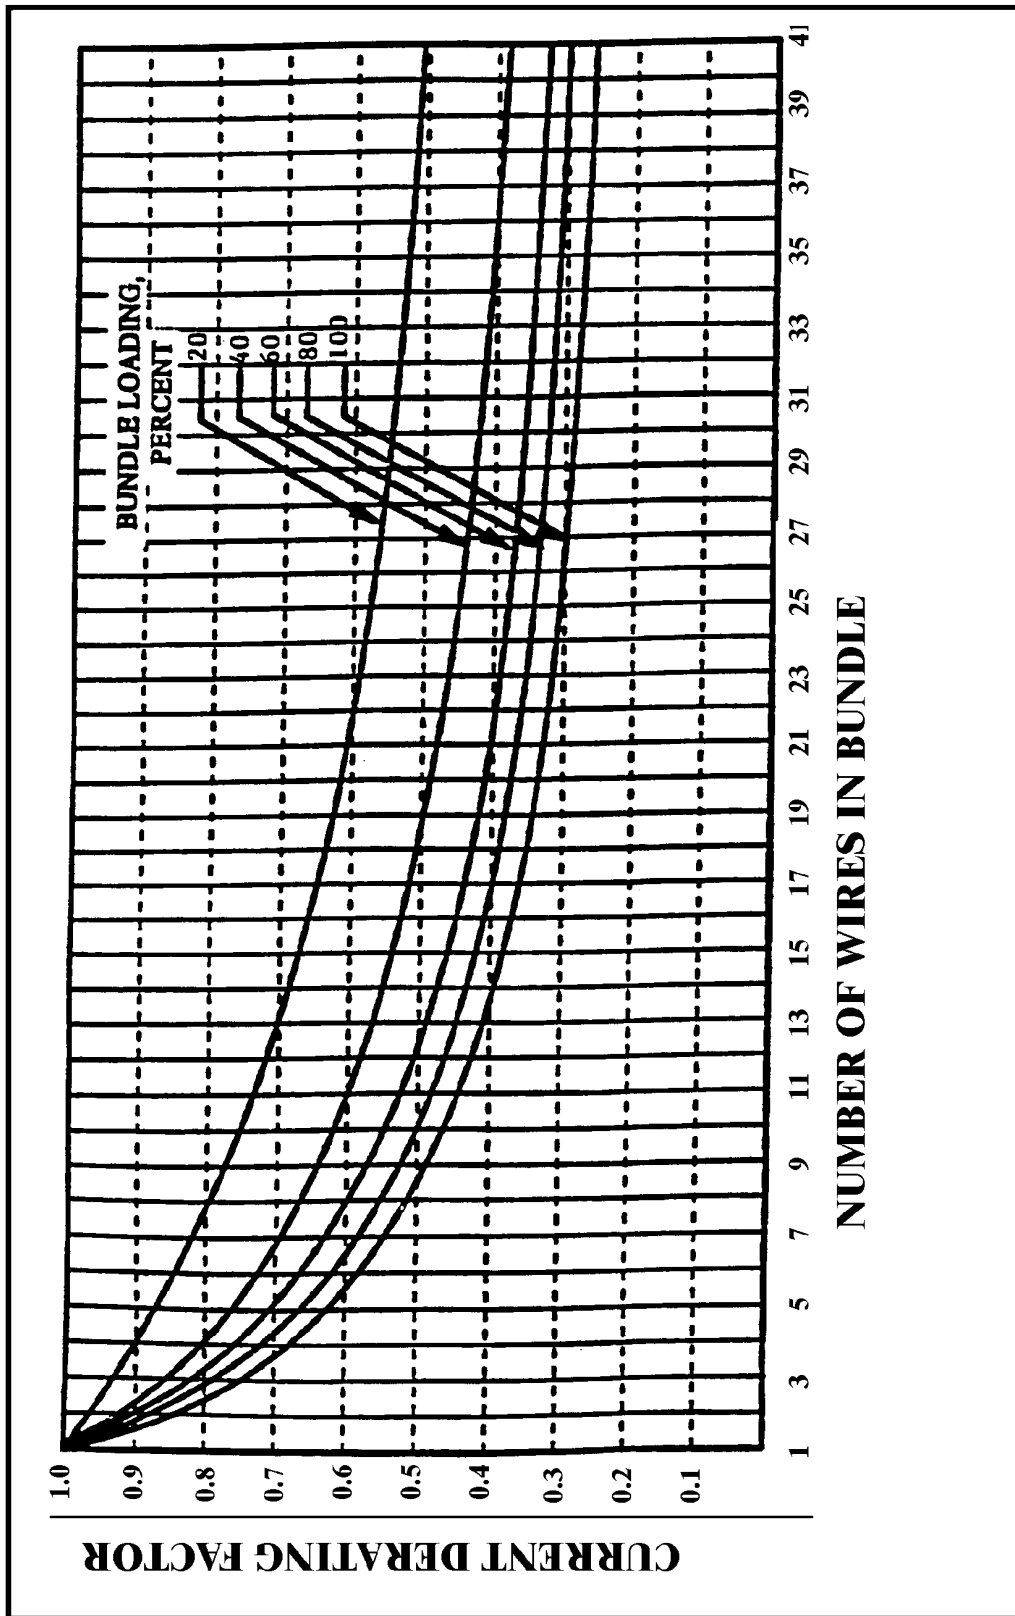

FIGURE 11-5. Bundle derating curves.
11-67. METHODS FOR DETERMINING CURRENT CARRYING CAPACITY OF WIRES. This paragraph contains methods for determining the current carrying capacity of electrical wire, both as a single wire in free air and when bundled into a harness. It presents derating factors for altitude correction and examples showing how to use the graphical and tabular data provided for this purpose. In some instances, the wire may be capable of carrying more current than is recommended for the contacts of the related connector. In this instance, it is the contact rating that dictates the maximum current to be carried by a wire. Wires of larger gauge may need to be used to fit within the crimp range of connector contacts that are adequately rated for the current being carried. Figure 11-5 gives a family of curves whereby the bundle derating factor may be obtained.
d. Wires in a Harness. When wires are bundled into harnesses, the current derived for a single wire must be reduced as shown in figure 11-5. The amount of current derating is a function of the number of wires in the bundle and the percentage of the total wire bundle capacity that is being used.
(2) Find the temperature differences (T_R-T₁) = (200 °C-50 °C) = 150 °C.
(3) Follow the 150 °C corresponding horizontal line to intersect with #14 wire size, drop vertically and read 47 Amps at bottom of chart (current amperes).
(4) Use figure 11-5, left side of chart reads 0.91 for 20,000 feet, multiple 0.91 x 47 Amps = 42.77 Amps.
STEP 2: Refer to the “bundle derating curves” in figure 11-5, the 20 percent curve is selected since circuit analysis indicate that 20 percent or less of the wire in the harness would be carrying power currents and less than 20 percent of the bundle capacity would be used. Find 35 (on the abscissa) since there are 35 wires in the bundle and determine a derating factor of 0.52 (on the ordinate) from the 20 percent curve.
STEP 2: Refer to the “bundling derating curves” in figure 11-5, the 100 percent curve is